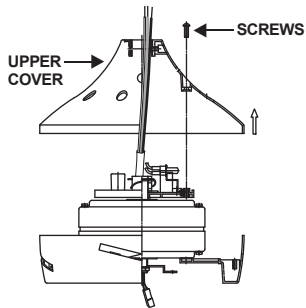

Fig. 5
Step 1. (Fig. 5) Remove the upper cover by remove the 4 screws from the motor.